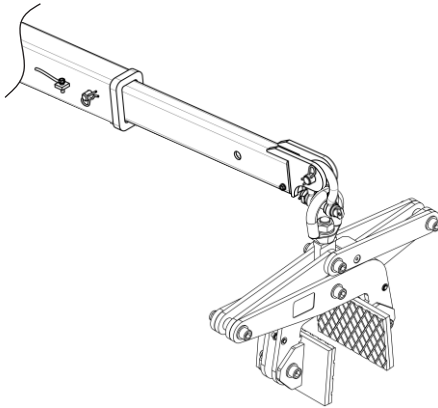

Figure 1.1
Step 1: Hook the Scissor Clamp to a forklift boom (Figure 1.1).